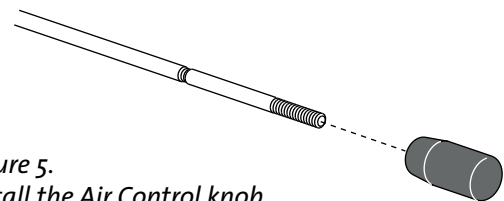

Figure 5.
2. Locate the knob in the hardware bag and screw it on to the end of the air control rod, under the ash lip, as shown in **fig. 5**.